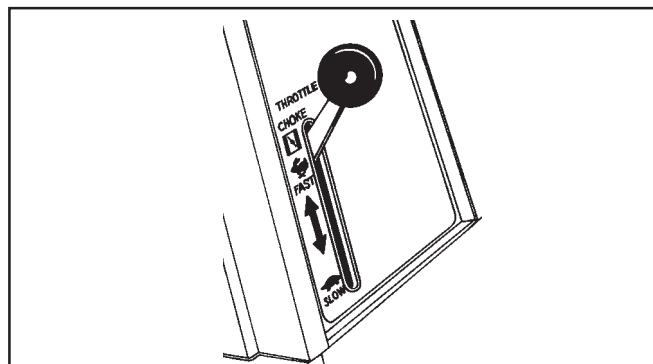

Figure 5. Throttle Position for Starting Engine with Single-Lever Control.
1. a. **For a Single-Lever Throttle/Choke Control:** Place the lever into **fast/choke on** position. See Figure 5.